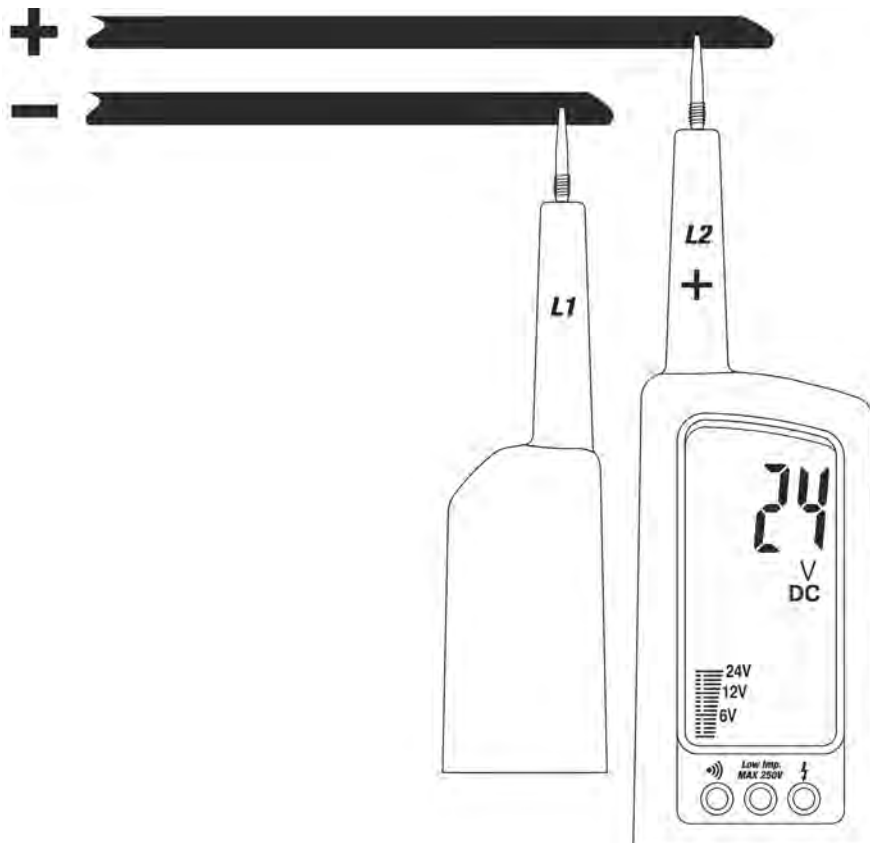

Fig. 2: DC Voltage measurement
2. Connect the L1 and L2 probes to the object under test (see Fig. 2). The measurement is performed **only when probes are in contact to live conductors**.